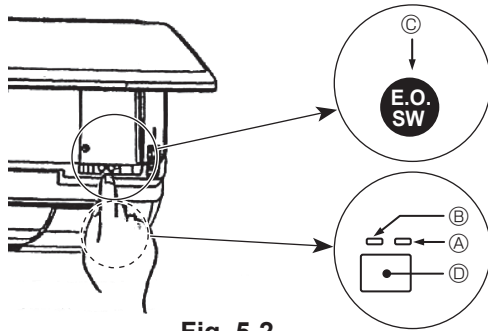

Fig. 5-2
- To stop operation, press the ⚙ button ④ or the ⚙ button ③ for more than 2 seconds.
[Fig. 5-2] ① DEFROST/STAND BY lamp (Orange)